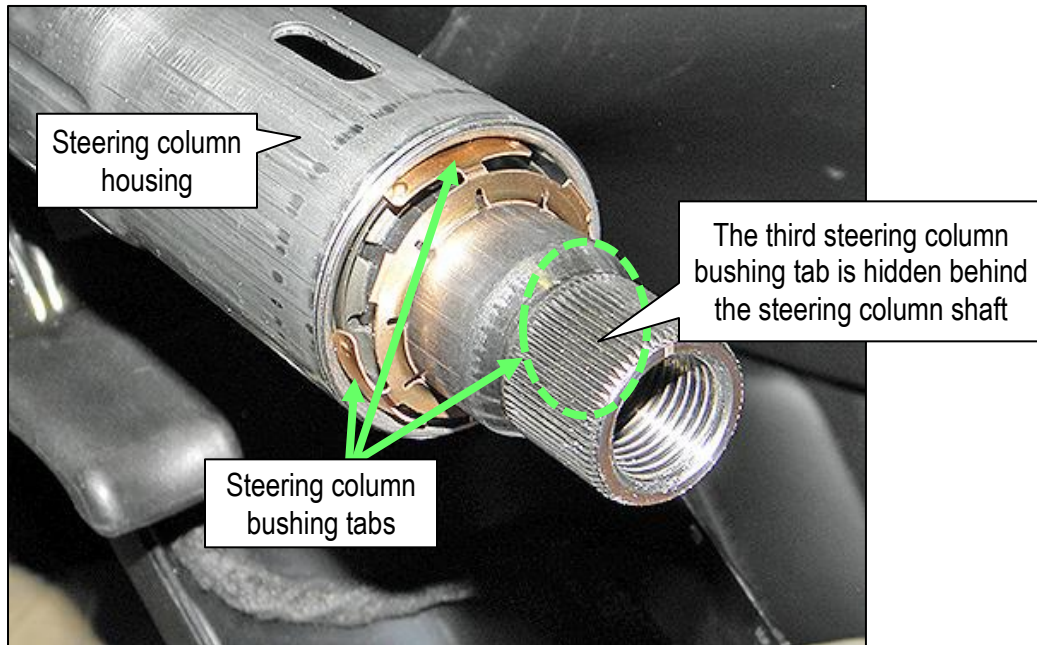

Figure 20
20. Continue to slide the steering column bushing down until the three (3) steering column bushing tabs are next to the steering column housing.
NOTE: Only two of the three (3) steering column bushing tabs are shown in Figure 20. The third steering column bushing tab is hidden behind the steering column shaft.